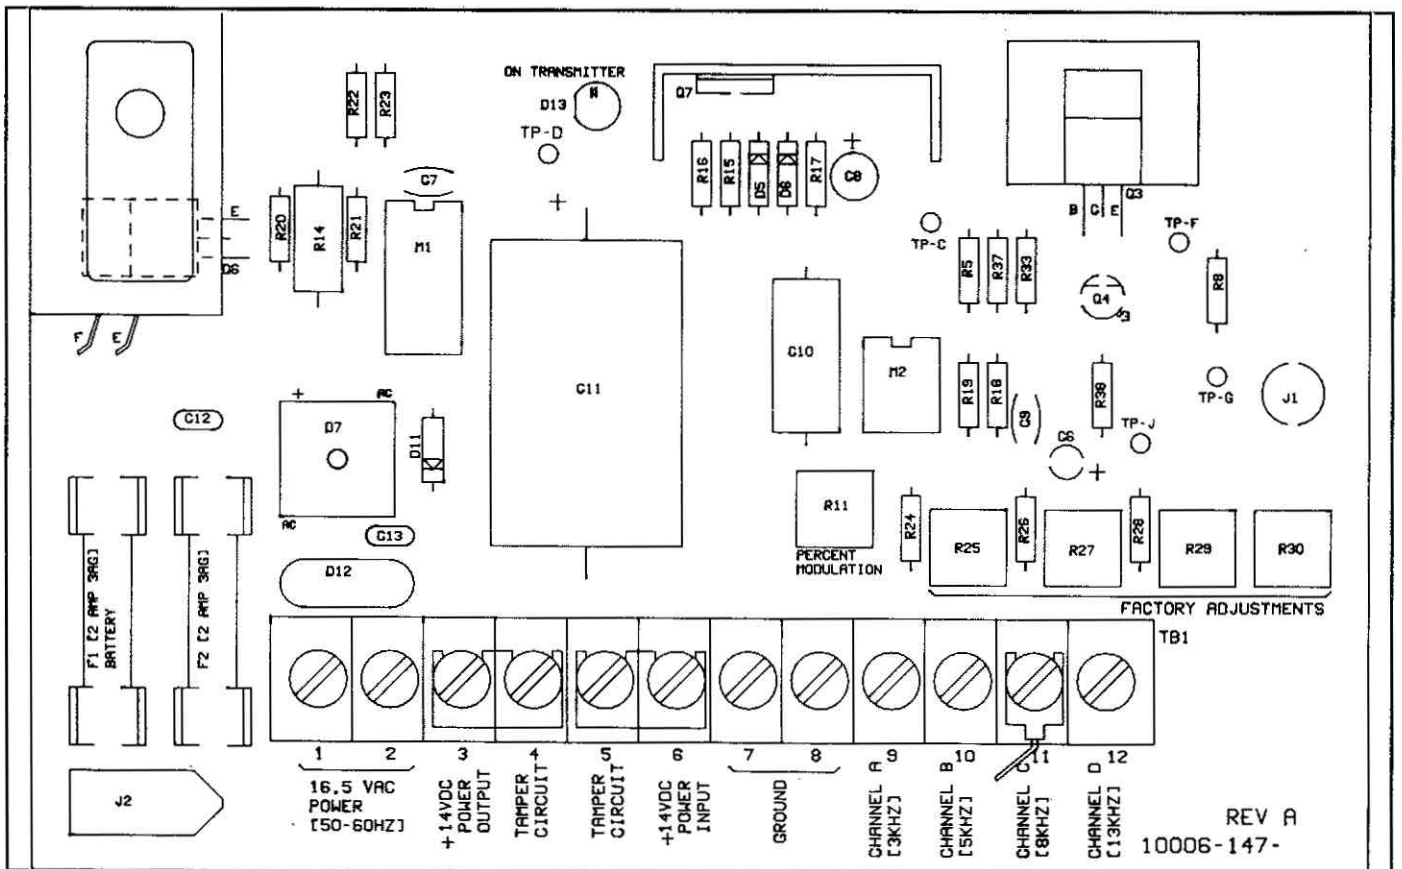

Figure 9: Transmitter (GUNN) Component Locations
- d. The detection sensitivity can be adjusted with R53 (see Figure 9), as follows: